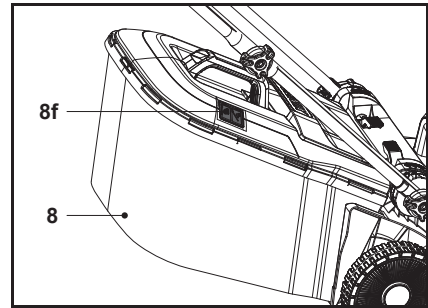

Fig. 12
2. When the hatch (8f) is closed, the grass catcher (8) is full and must be emptied (Fig. 12).